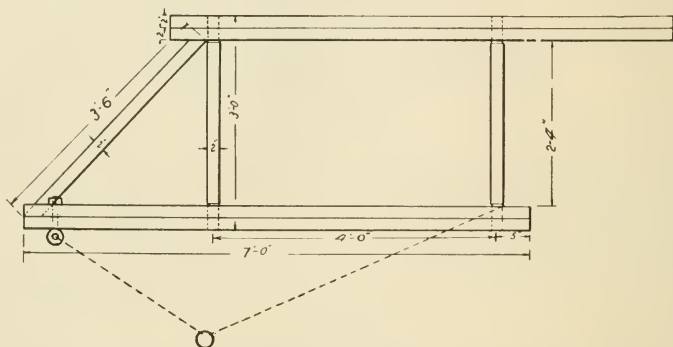

FIG. 65.—WORKING DRAWING OF PLANK DRAG.
3. Laying out holes. — Lay out the holes in the 2'' × 4'' pieces before spiking them to the 2'' × 8'' pieces so that you will not drive a spike where a hole should be. Figure 65 indicates where the holes should be bored.